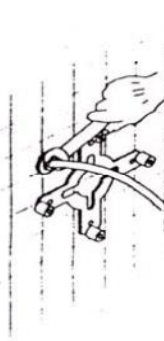

FIG. 4
4. Tightened the packing gland (fig.4)